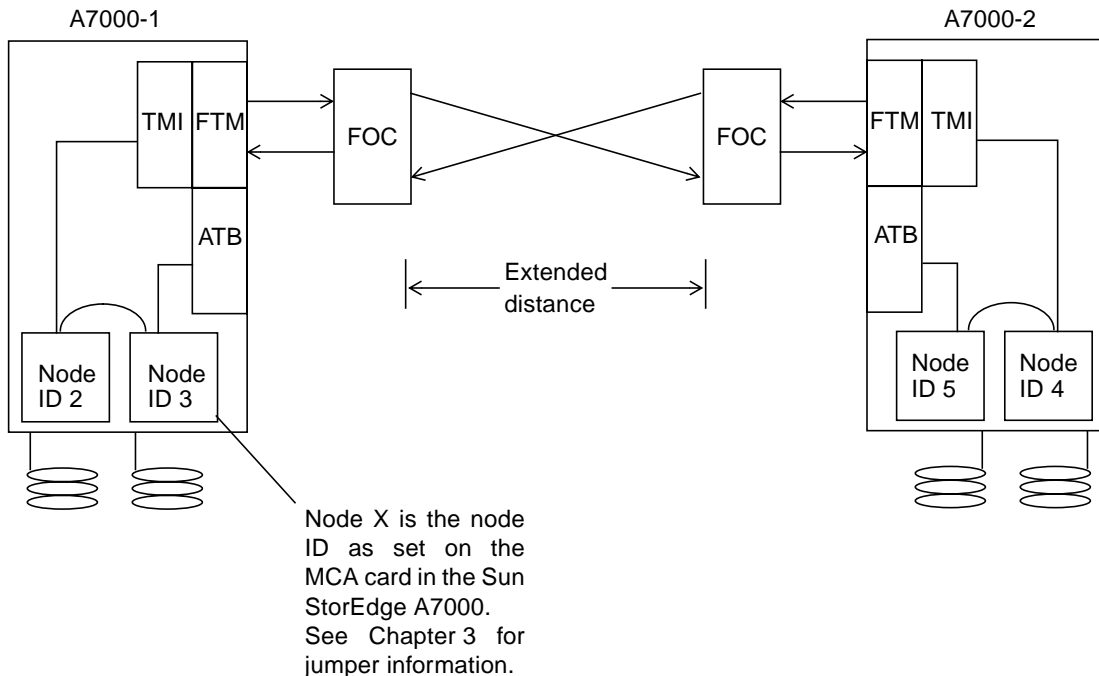

FIGURE 5-12 Fiber-optic Converter Connection Scheme Block Diagram
You can extend the FORM link using customer-supplied fiber-optic converters (FOC) and cables. The extended distance should not exceed 50 kilometers (km), depending on the FOC used. The FOC connects to the transmit (TX) and receive (RX) converters on the FTM card in each Sun StorEdge A7000. FIGURE 5-12 is a block diagram showing two Sun StorEdge A7000s connecting using this scheme.